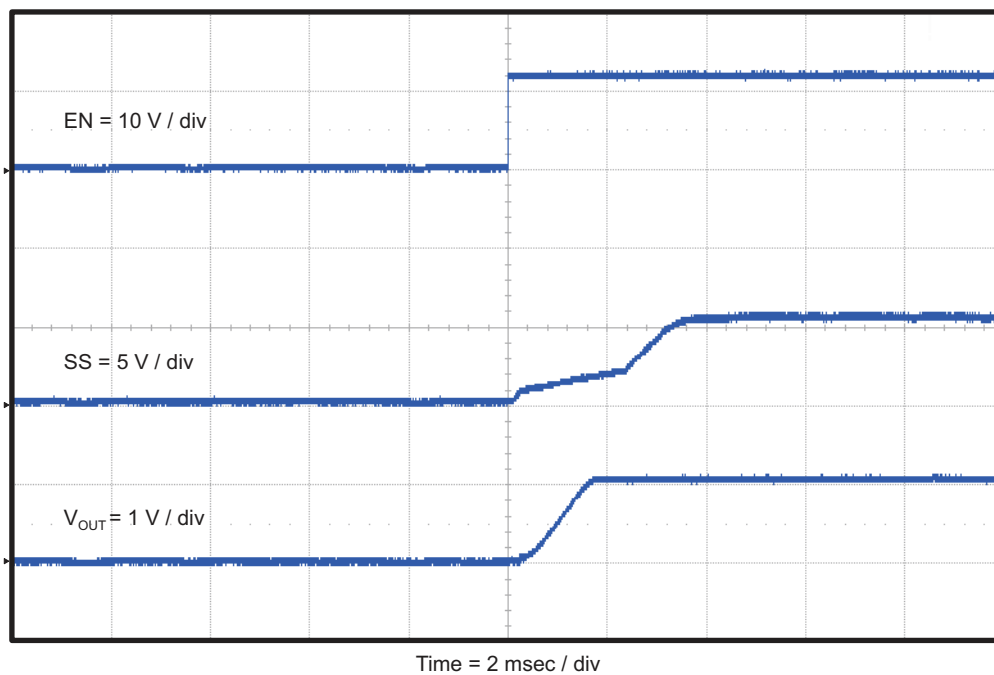
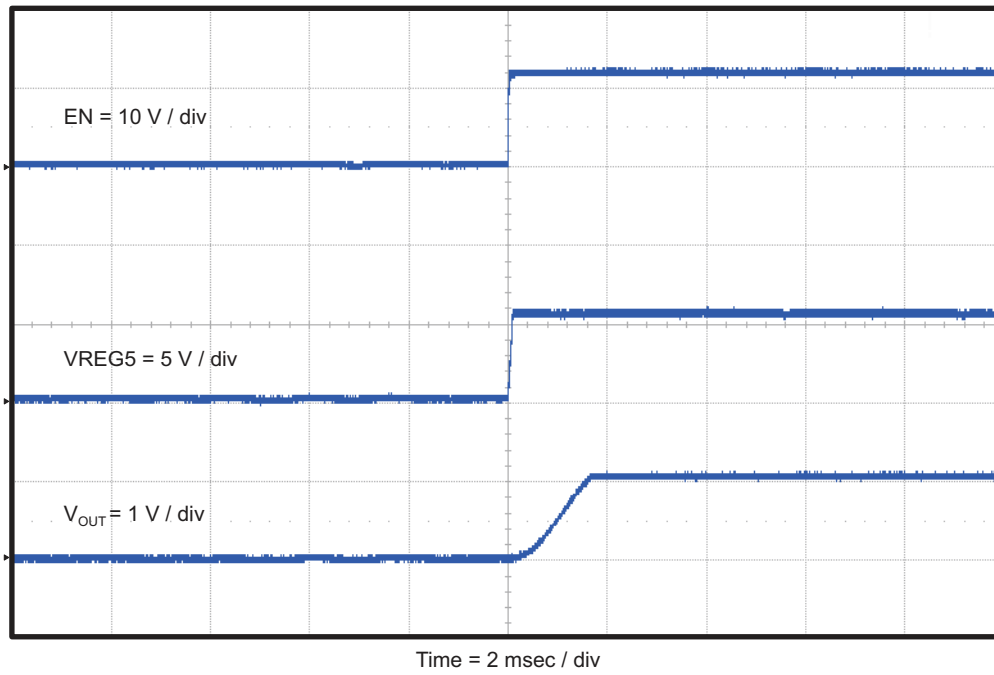

Figure 4-10. TPS54229EVM-056 Start-Up Relative to EN With SS
Figure 4-11. TPS54229EVM-056 Start-Up Relative to EN With VREG5
The TPS54229EVM-056 start-up waveforms relative to enable (EN) are shown in Figure 4-10 and Figure 4-11.